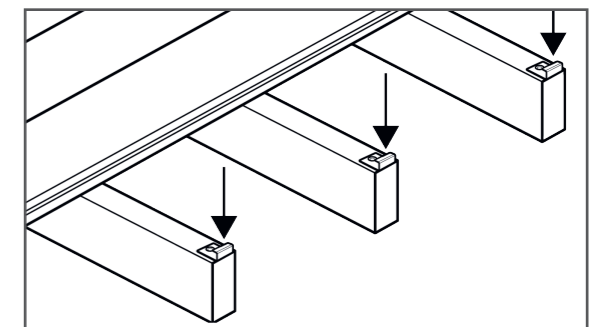

FIG. 7
- 5 Take up the two loose rows of **boards**, and install **starter clips** along pencil line/outer edge of the frame, one per joist. (fig. 7)